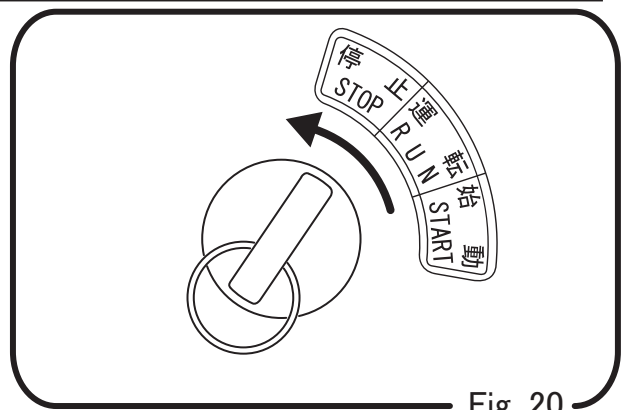

Fig. 20
- 9.1. Before shutting off the engine, allow the engine to idle for 2-3 minutes and then turn the key to STOP position.) (Fig. 20)